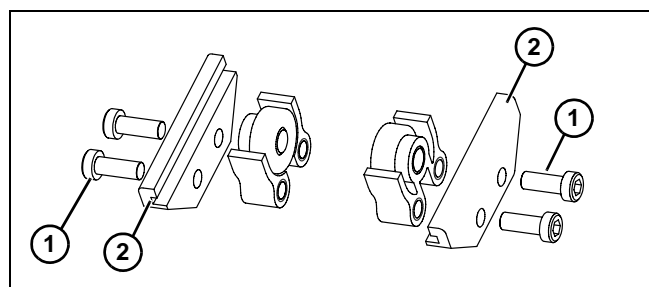

**Figure 12**
3. Insert T-bars (**Figure 11, item 1**) into conveyor side slots (**Figure 12, item 1**). Fasten brackets (**Figure 12, item 2**) to conveyor with mounting screws (**Figure 12, item 3**).
4. Fasten brackets to support stand with mounting screws (**Figure 12, item 4**), washers (**Figure 12, item 5**) and nuts (**Figure 12, item 6**).
5. Tighten screws (**Figure 12, item 3 & 4**) to 60 in-lb (7 Nm).